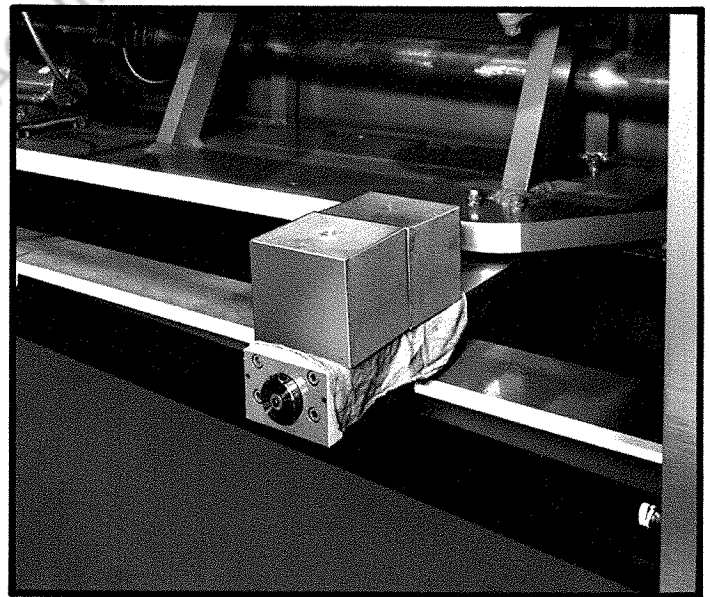

FIGURE 113
- E. Place a 150 pound weight at the rear of ram brace near one end as shown in Figure 113.